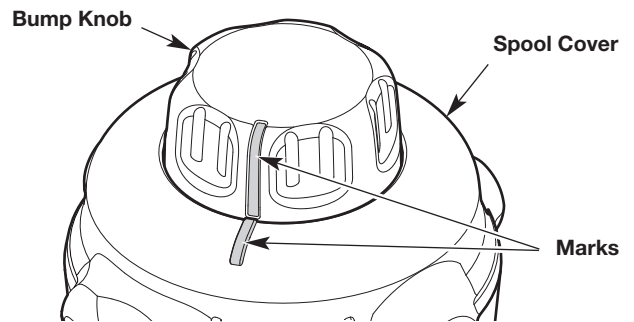

Fig. 18
- Turn the bump knob to align the mark on the bump knob with the mark on the spool cover (Fig. 18).